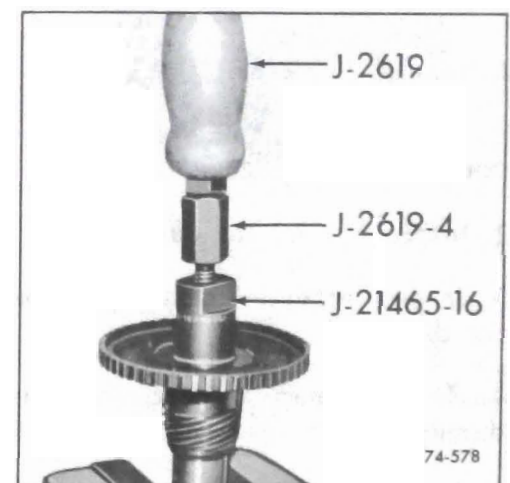

Figure 76-578
a. Thread Tool J-21465-16 into bushing using Slide Hammer J-2619, remove. See Figure 76-578.